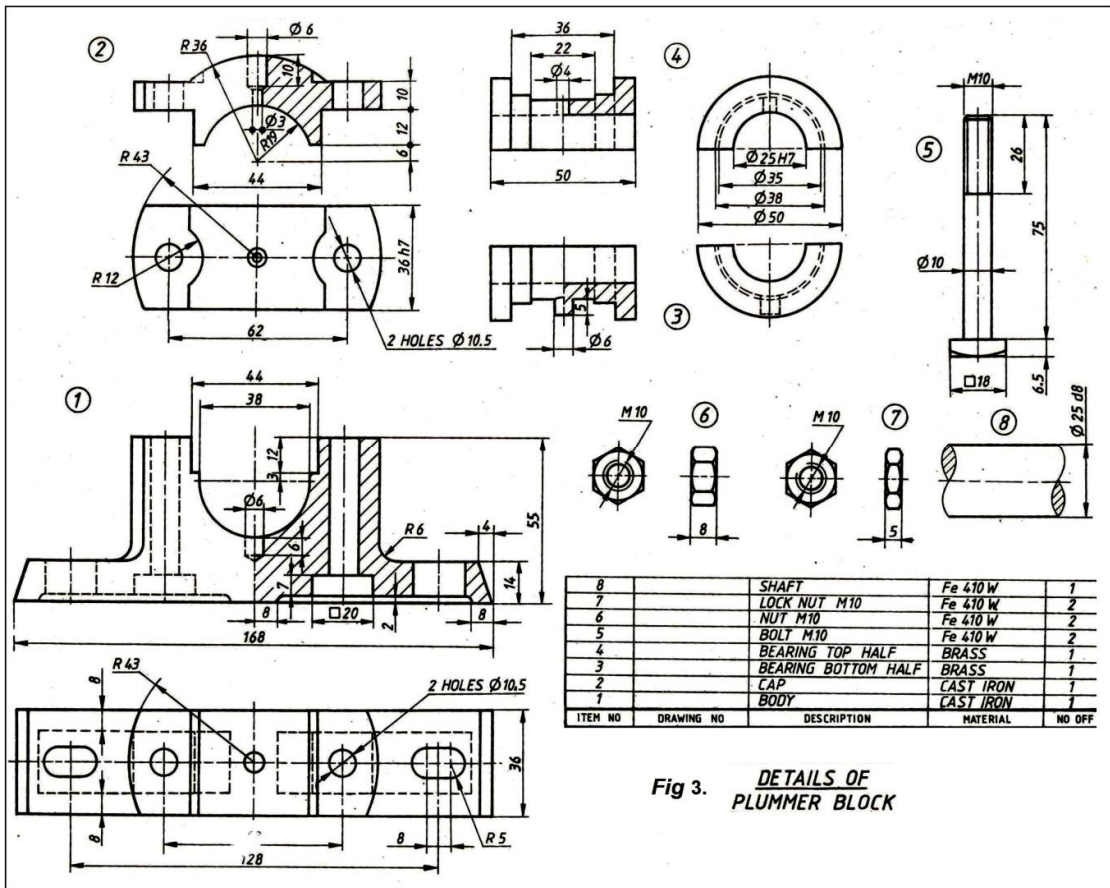

Fig 3. DETAILS OF PLUMMER BLOCK
- Q.5** The details of a Plummer Block are shown in Fig 3. Assemble the parts & draw the front view in section. **14**